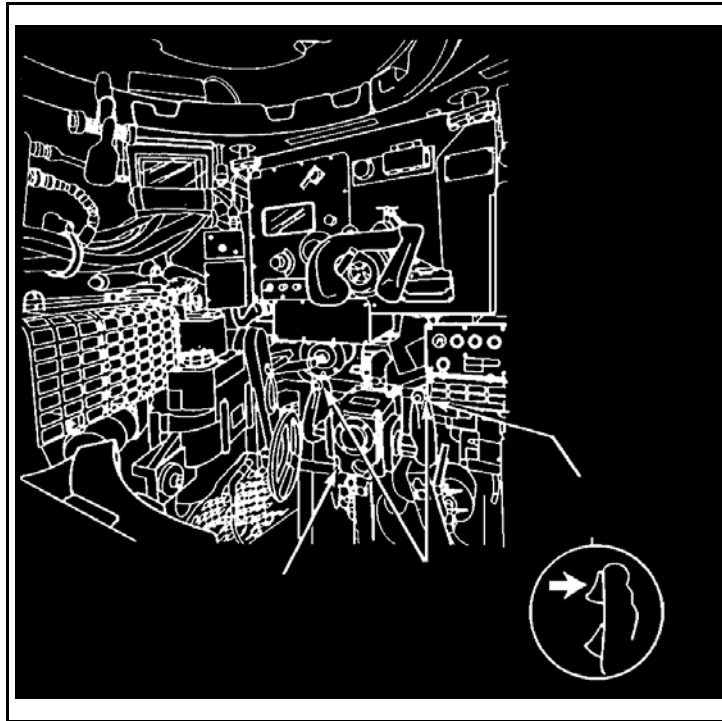

Figure 6. Gunner's control handles.
10. Fire at the target by squeezing the trigger switches on the gunner's control handles (Figure 6, page 3-188).